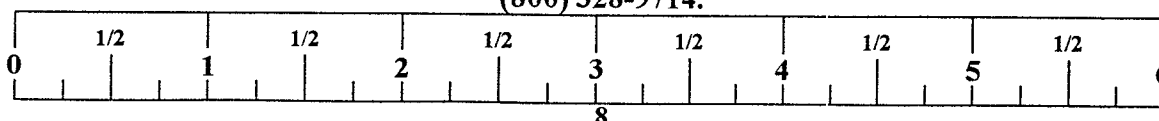

**FIGURE 6**
- Slide six 1-1/4 X 7" HANDLES (12) over the HANDLES of the VKR SIDES (4) and the CHIN BAR (2) as shown in FIGURE 6.
- Slide two 1-1/4 X 5" HANDLES (11) over the ARM PAD HANDLES of the VKR SIDES (4) as shown in FIGURE 6. (NOTE: Rubbing alcohol can be used on the inside of the grips to make them slide on easier.)
**Thank you for purchasing the Parabody 884101 SAFTEY RAIL ATTACHMENT. If unsure of proper use of equipment, call your local Parabody distributor or call the Parabody customer service department at (800) 328-9714.**